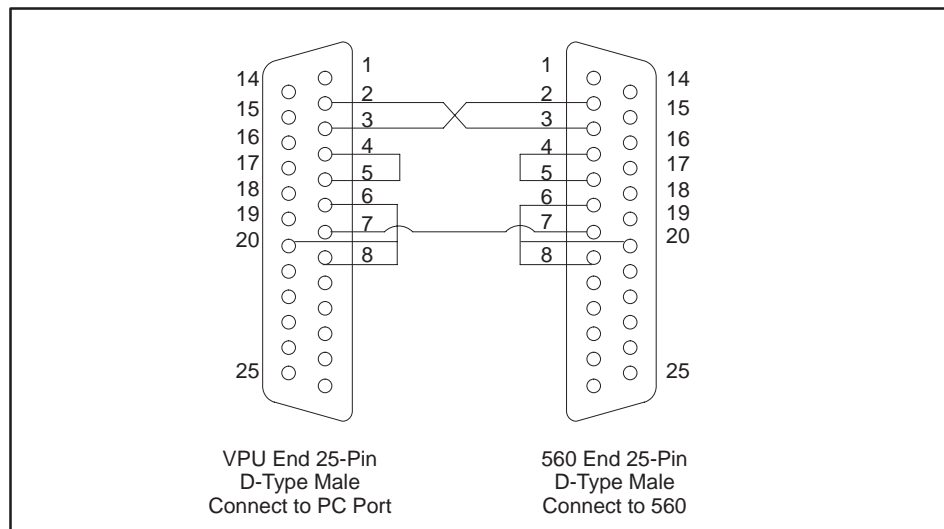

Figure 4-5 VPU200 to 560 Cable, PPX:VPU200–3605
1. Direct connection of the VPU200–3104 to a 560 controller using cable VPU200–3605 (Figure 4-5).